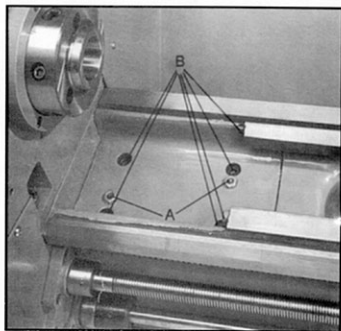

Fig.25
- To remove gap section, locate two nuts (A, Fig. 25) in the center of the gap section.
- Remove six hex socket cap screws (B, Fig. 25) with a hex key wrench.